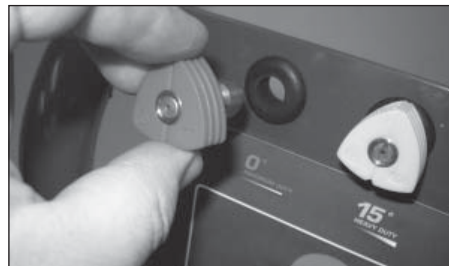

Figure 6 - Insert spray nozzles into the holder
3. Insert quick connect spray nozzles into rubber holders on front of the placard. (See Figure 6).